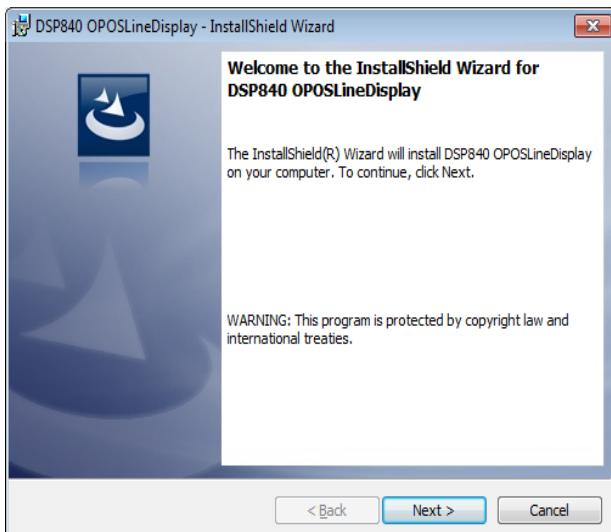

Figure 2-9 DSP840 OPOSLineDisplay
2. Please follow Installshield Wizard Dialog, see figure 2-9~2-12.
3. Please follow InstallShield Wizard Dialog, see figure 2-9~2-12.